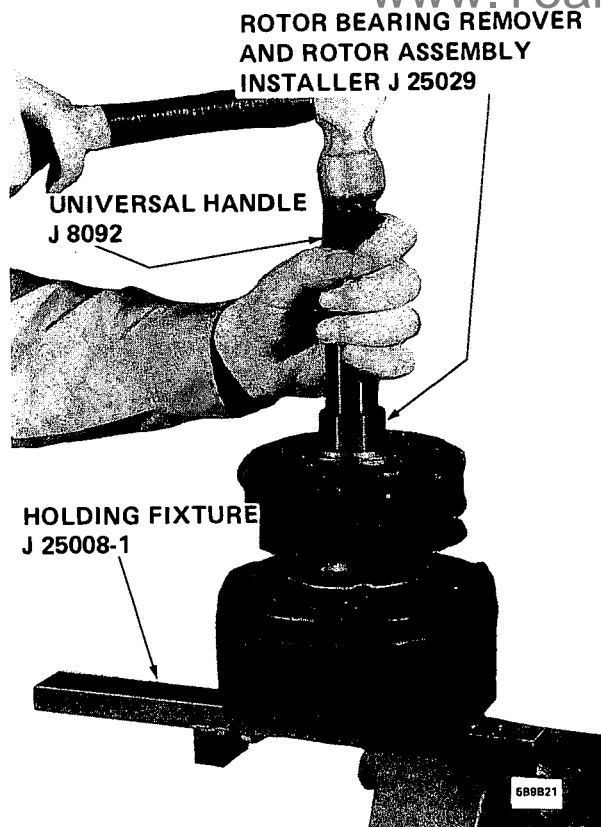

Figure 9B-45 - Installing Clutch and Pulley Assembly - 4 Cylinder Compressor
5. Install the clutch rotor and bearing assembly, clutch coil and pulley rim assembly to the front head using tool J25029. See figure 9B-45. Before fully seating the assembly on the front head be sure the clutch coil terminals are in the proper location in relation to the compressor and that the three protrusions on the rear of the clutch coil align with the locator holes in the front head.